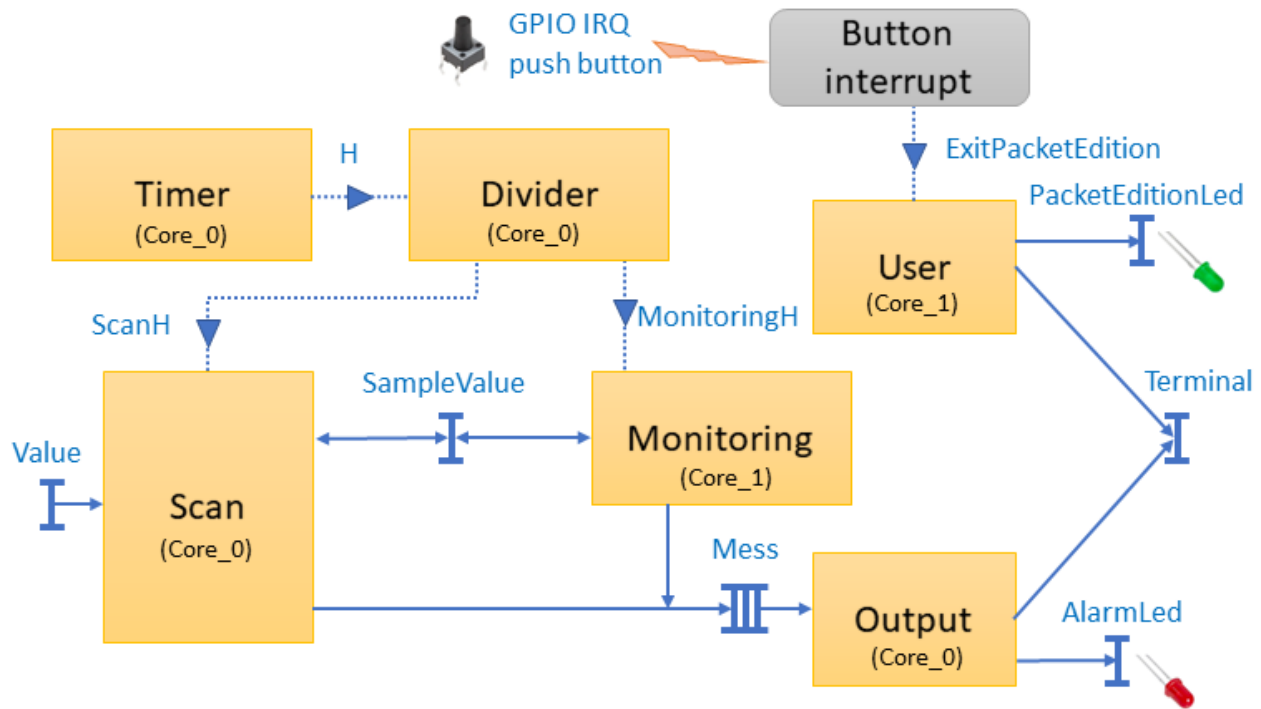

FIGURE 5.1 – Functional description.
5. Write the program for *Timer*, *Divider*, *Scan* and *Monitoring* tasks. The capacity of *Mess* queue is 5. The tasks are mapped on different cores referenced in the figure 5.1.